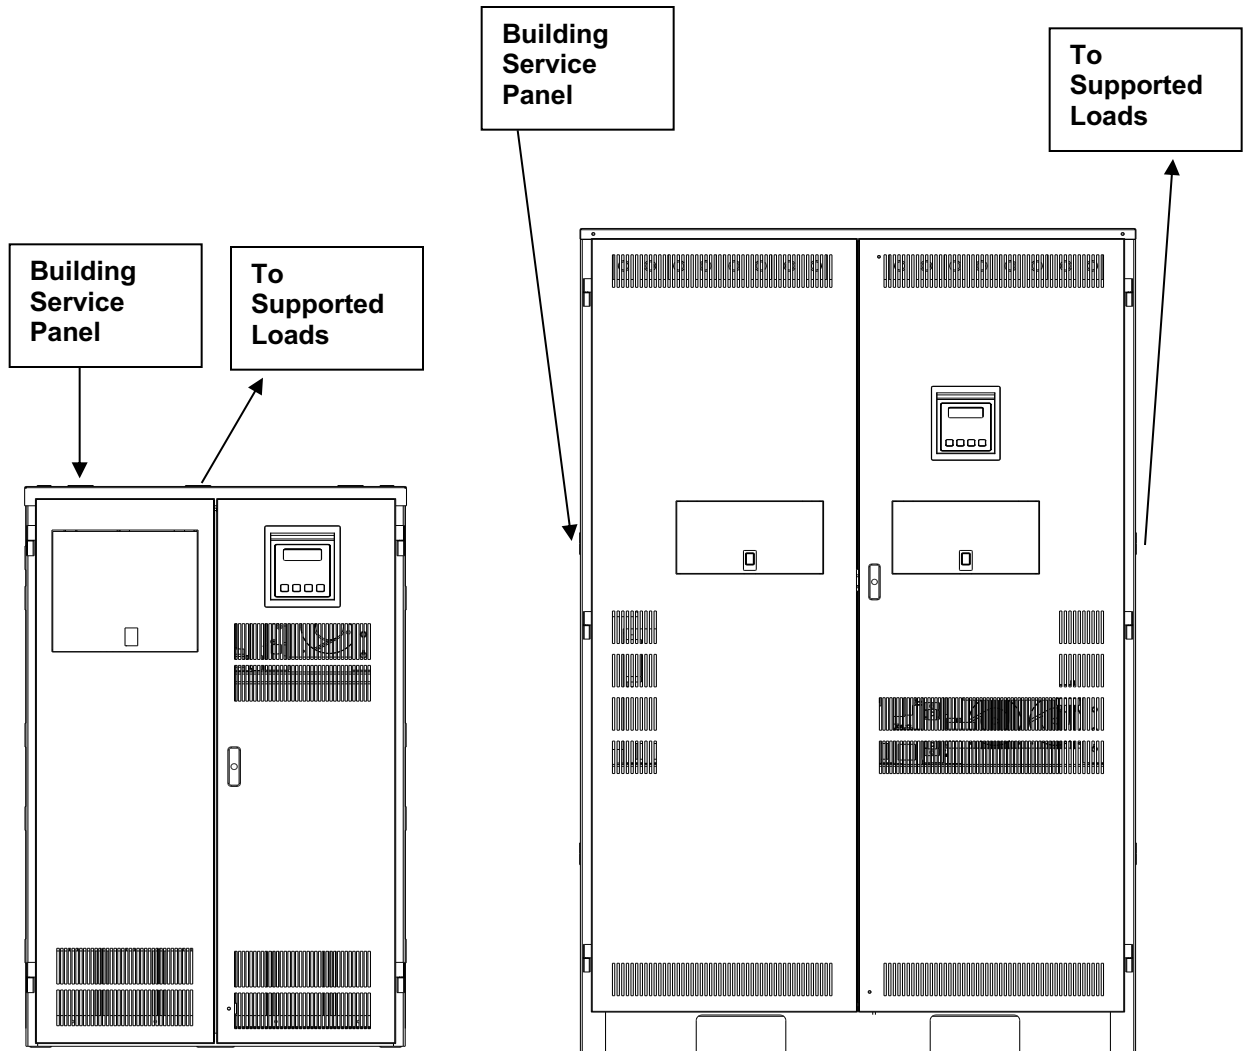

Figure 4.1 Typical Hardwired Installation
Figure 4.1 shows typical installations of system. Standard 1.5 kW, 2.25 kW, 3.0 kW, 3.75 kW, 5.0 kW, 6.0 kW, 8.0 kW, 10.0 kW, 12.5 kW, and 16.7 kW models **do not** have external battery cabinets.
- Remove knockouts for AC Input and AC Output in the top or left and right side of the system (See figure 4.1). AC input conductors and AC output conductors must be installed in separate conduits, and emergency and non-emergency output circuits must be installed in separate conduits.